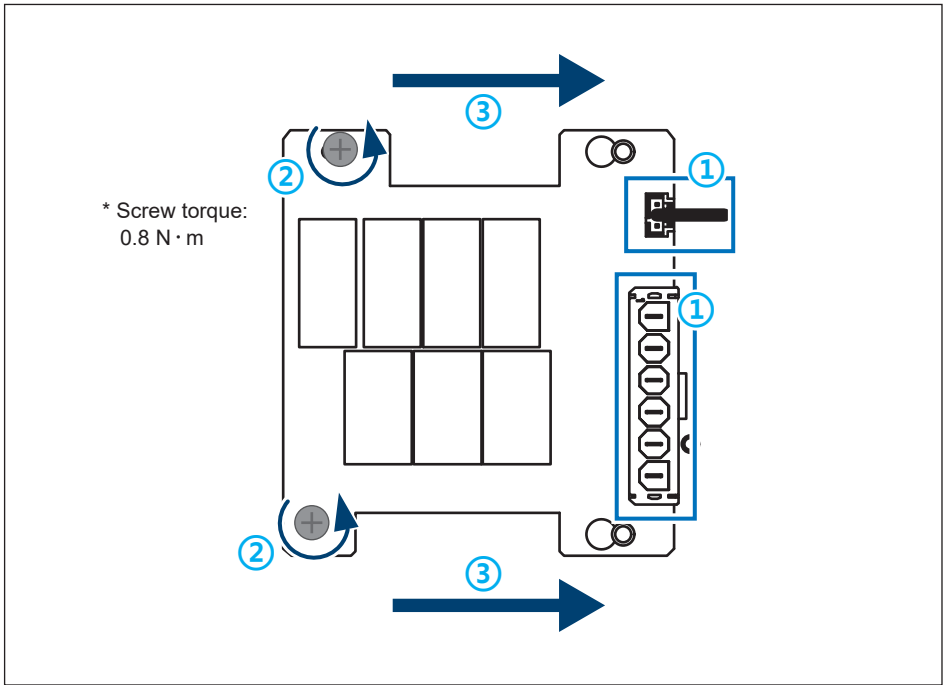

Figure 5-7: Remove sensing cable and screws
4. AC SPD is with two signal wiring connectors, please disengage them from AC SPD PCB (**Figure 5-7-①**).
5. Remove two self-retaining screws(**Figure 5-7-②**), then remove the AC SPD after sliding.